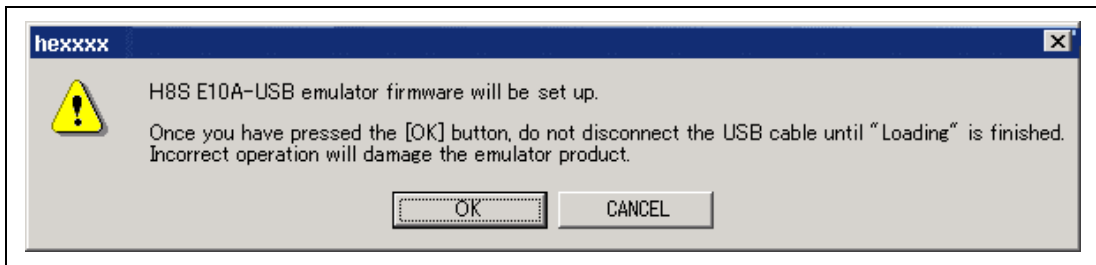
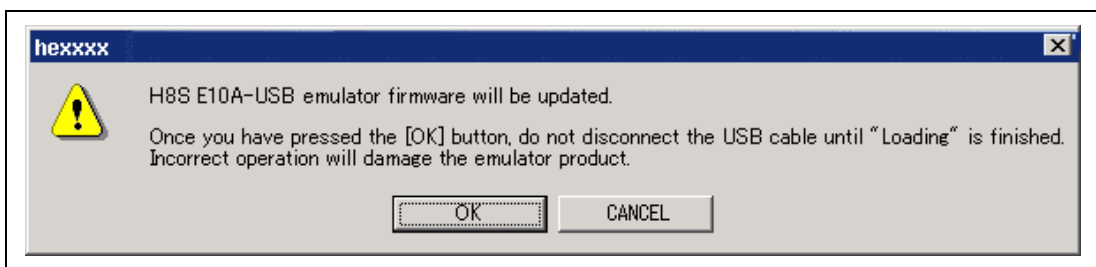

Figure 3.37 Dialog Box to Confirm Setting up of the Emulator Firmware
Figure 3.38 Dialog Box to Confirm Updating of the H8S Emulator Firmware
8. The dialog box shown in figure 3.37 is displayed if no product groups have been installed in the emulator at the time of purchase or if the H8S or H8SX license has been installed in the emulator but the emulator firmware has been set up for a different device group. The dialog box shown in figure 3.38 is displayed if an old version of the emulator firmware has been set up in the emulator. Clicking the [OK] button sets up the emulator firmware.